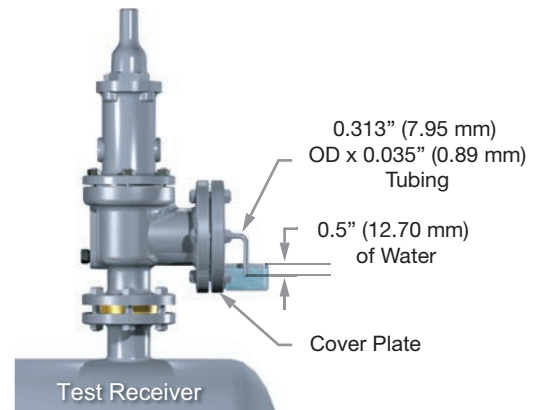

Figure 40: Typical Test Arrangement
General Information: Set up a typical test arrangement for determining seat tightness for SRVs on air or gas service (in accordance with ANSI B147.1/ API RP 527) (see Figure 40).
- With the valve mounted vertically (see Figure 40), determine the leakage rate, in bubbles per minute, with pressure at the SRV inlet held at 90% of the set pressure immediately after popping. For valves set at 50 psig (3.45 barg) or below, hold pressure at 5 psig (0.34 barg) below set point. The test pressure shall be applied for a minimum of 1 minute for valves on inlet sizes through 2" (50.8 mm); 2 minutes for sizes 2.5" (63.5 mm), 3" (76.2 mm) and 4" (101.6 mm), and 5 minutes for the 6" (152.4 mm), 8" (203.2 mm), 10" (254 mm) and 12" (304.8 mm) sizes. For metal-to-metal valves designated for gaseous service, the leakage rate shall not exceed
Consolidated SRVs are furnished, when so ordered, with packed or plain lifting levers for hand-popping or with an air-operated lifting device for remote control (see Figures 40 through 42).